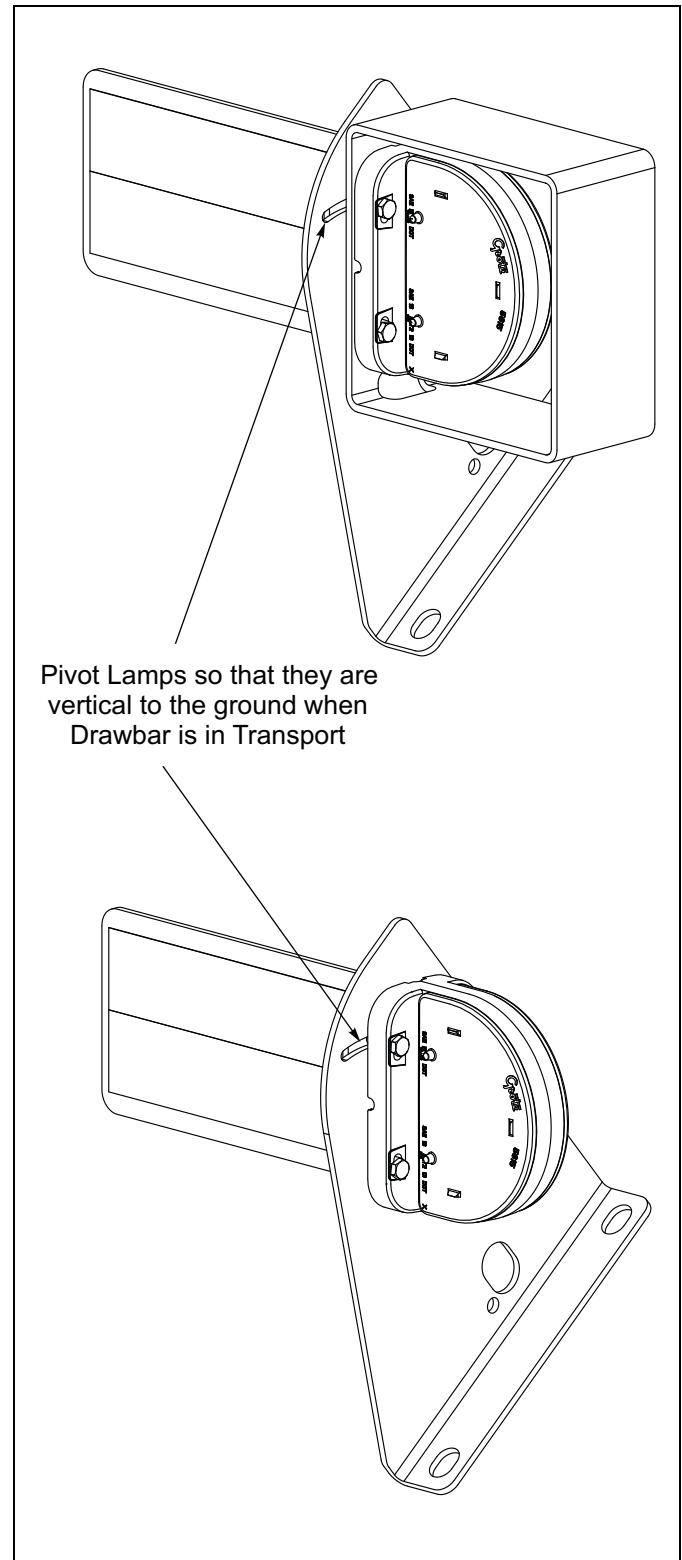

Figure 2-8: LED Lamp Adjustment
10. Adjust the LED lamp angles so LED's are vertical with the drawbar height adjusted to the transport height. Adjustment is provided to compensate for high drawbar heights if used as a companion tool or lower heights if towed directly behind a tractor. **See Figure 2-8.**